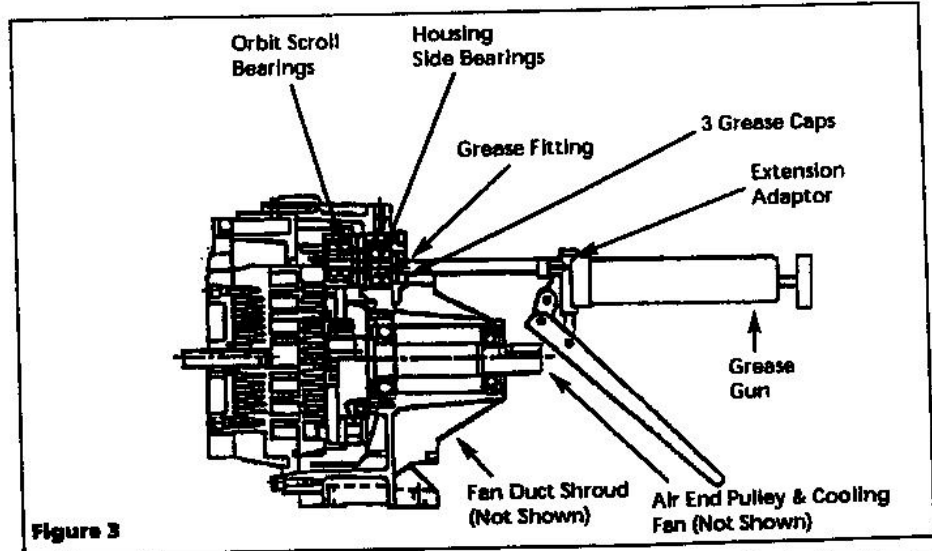

Figure 3
2. Remove the air end pulley and cooling fan with a gear puller (See Figure 3).
5. Grease all three pin crank bearings (See Figures 3, 4 & 5 and Grease Delivery Chart below).